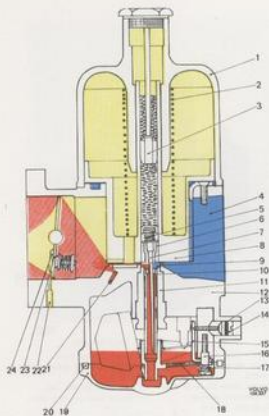

Fig. 2-84. Cold starting, principle
The carburetor consists of a carburetor housing (12, Fig. 2-84), the lower part of which is designed as a floatchamber and an upper part which is called a suction chamber (1). A movable spring-loaded air valve (8) is located in the suction chamber. It is the lower section of the valve which regulates the volume of air admitted. The suction chamber is connected by channels to the space between the carburetor throttle and valve.